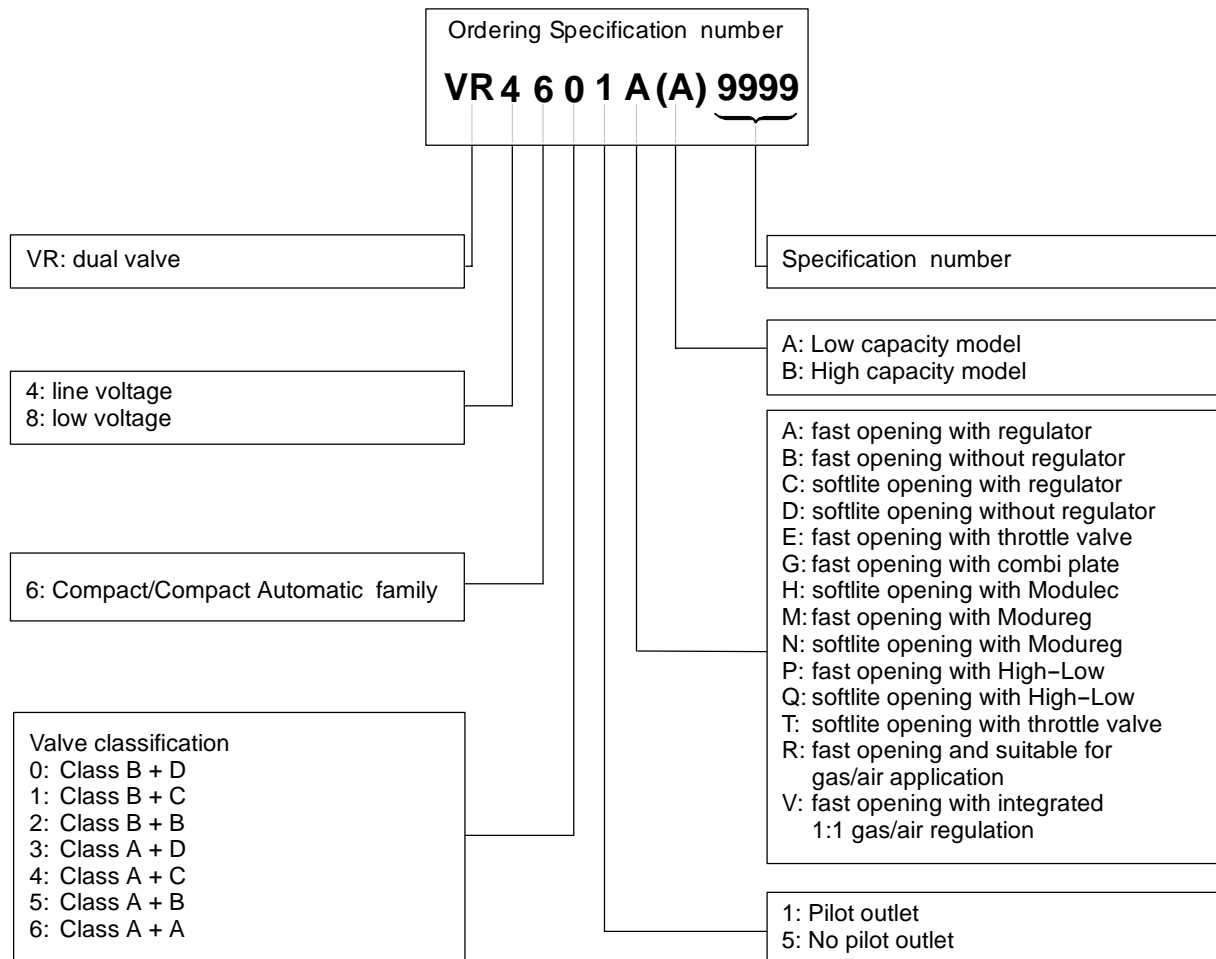

Fig. 5. Model number chart
- Model number of Compact Automatic required: see fig. 5.